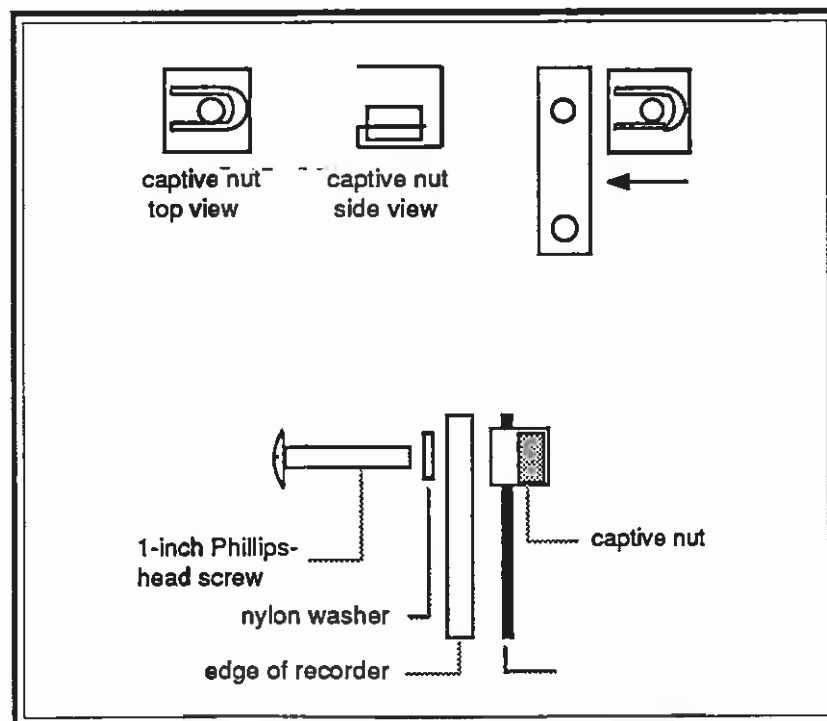

Figure 2-2f. Attaching Recorder to Enclosure
12. Using the four 1-inch #10 Phillips-head screws, four nylon washers, and four U-nuts that are supplied with your recorder, secure the recorder in the enclosure. Figure 2-2f illustrates the correct mounting-hardware configuration.